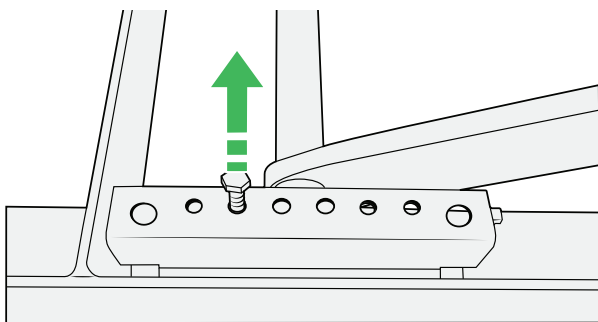

Figure 97
39. Remove the safety bolt (on both sides). See Figure 97.